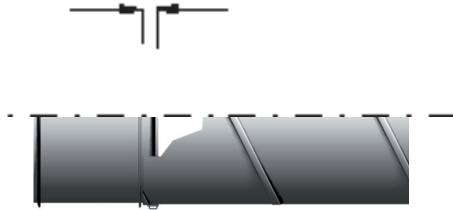

Fig. 7
- Fit together the various components as shown in Fig. 7 and 8.